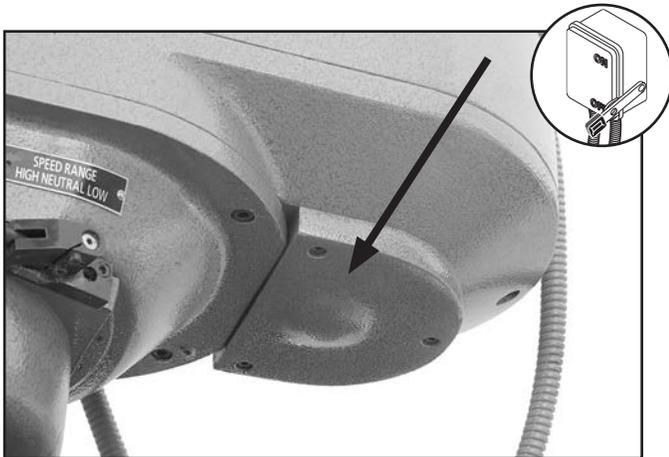

Figure 75. Lower pulley cover.
3. Remove the three cap screws and the lower pulley cover shown in **Figure 75**.